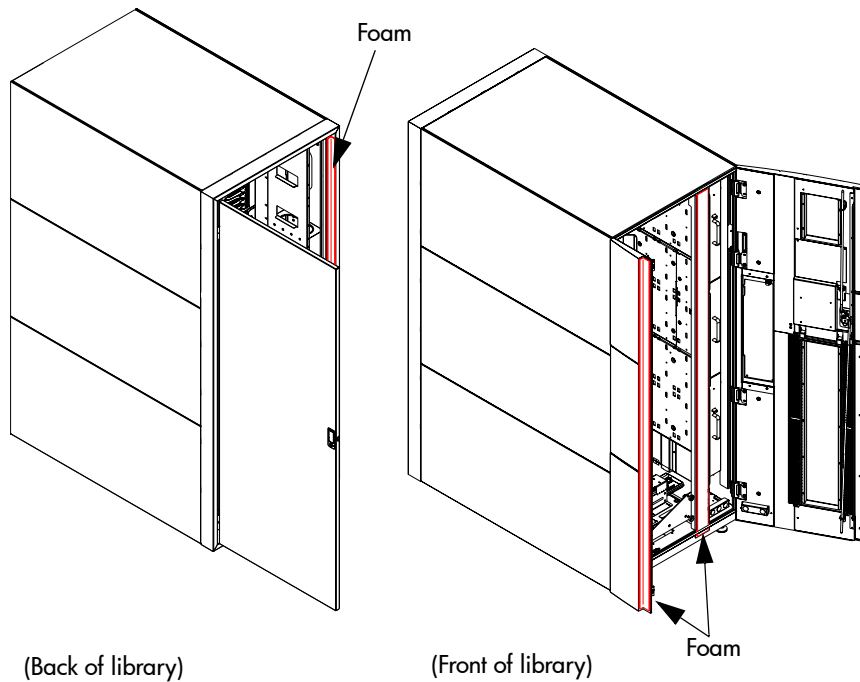

Figure 15: Removing the shipping foam
7. From the front of the library, remove the foam from the Y-axis cover plate, from the left front door, and also from the back door frame (see Figure 15). Store the foam in case you need to relocate the library in the future.